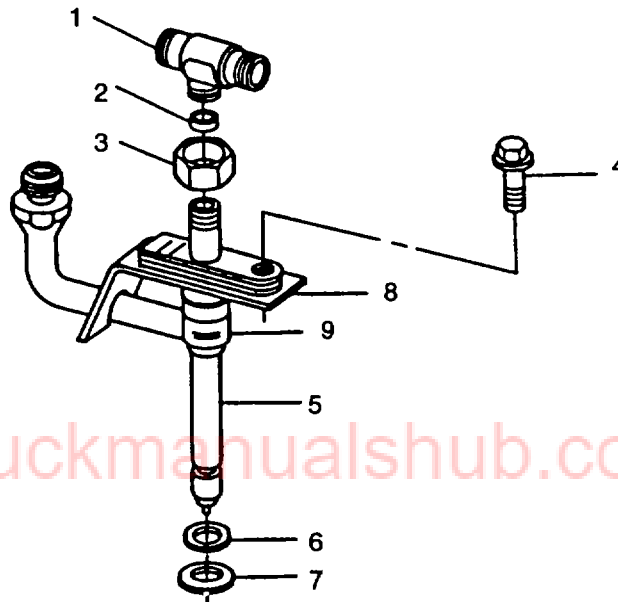

FIGURE 3-112. Fuel Injection Nozzle
- a. Loosen coupling nut (3, FIGURE 3-112) and remove tee (1) from nozzle (5). Remove and discard grommet (2).
- a. Remove carbon stop seal (6, FIGURE 3-112) and upper sealing washer (7), using a needlenose pliers. Discard seal and washer.
Each time an injection nozzle is removed from cylinder head, replace carbon stop seal (6, FIGURE 3-112) with a new one.
- Make sure that sealing surface of the cylinder head (on which the seal washer (7, FIGURE 3-112) will be resting) is smooth and free of damage or dirt. This could prevent proper sealing. Dirt and roughness could also cause distortion to nozzle when the attaching bolt (4) is tightened, making the valve stick.
- c. Install nozzle (5) in cylinder head using a slight twisting motion as nozzle is seated in bore.
- d. Install bolt (4). Do not tighten bolt (4) at this time.